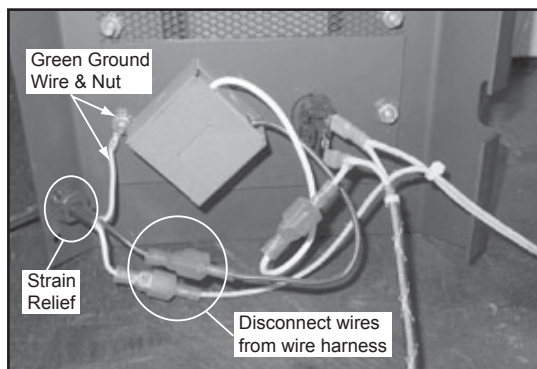

Figure 23.1
1. Remove the green ground terminal from the stud and unhook the neutral (white) and line power wires from the rest of the harness. **Figure 23.1.**